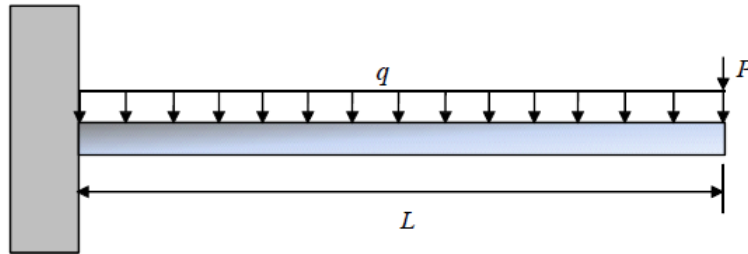

Fig. PS4.4
- 3) Suppose a cantilever beam of length L is subjected to a uniform load of intensity q and a concentrated load P at the free end of the beam as shown in Fig. PS4.4.